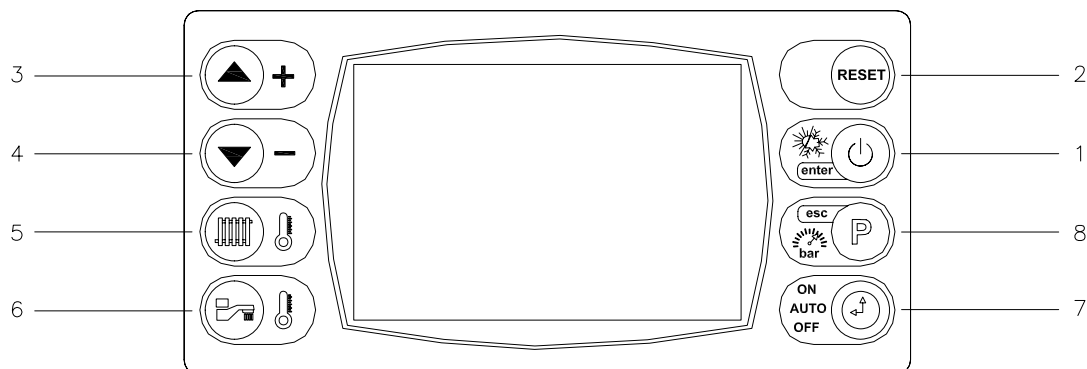

Fig. 1
In the event of an error, the appliance will show a sequence code displayed on the digital display of the control panel (fig. 1). By pressing the "RESET" button it is possible to relight the boiler (see page 51 for list of error codes).
Your boiler is equipped with a large LCD display that indicates the appliance operating status (fig. 1).
Use the arrow up and the arrow down buttons, (item 3 and 4 fig. 1) to show the following info: